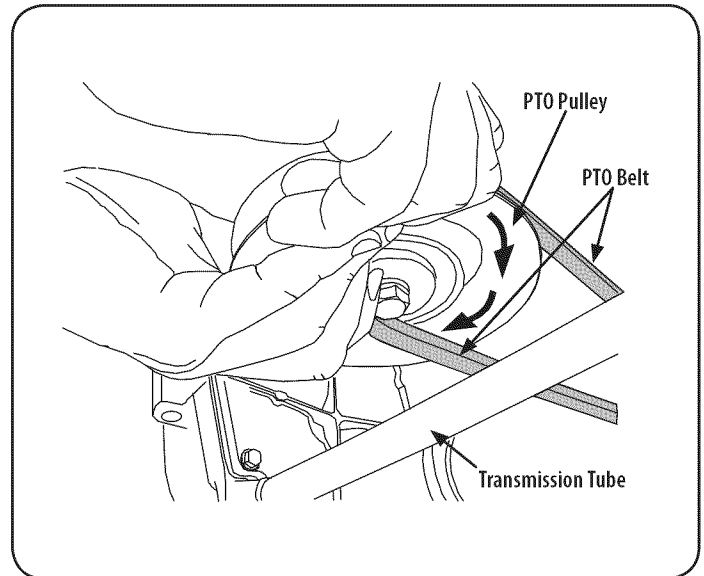

Figure 40
- d. While still holding the belt downward, continue turning the PTO pulley until the belt is rolled off the pulley. Refer to Figure 40.
- Pull the right side of the belt rearward and place the narrow V side of the belt into the PTO pulley. See Figure 40.
- While holding the belt and pulley together, rotate the pulley to the left (See Figure 40). Continue holding and rotating the pulley and belt until the belt is fully rolled into the PTO pulley.